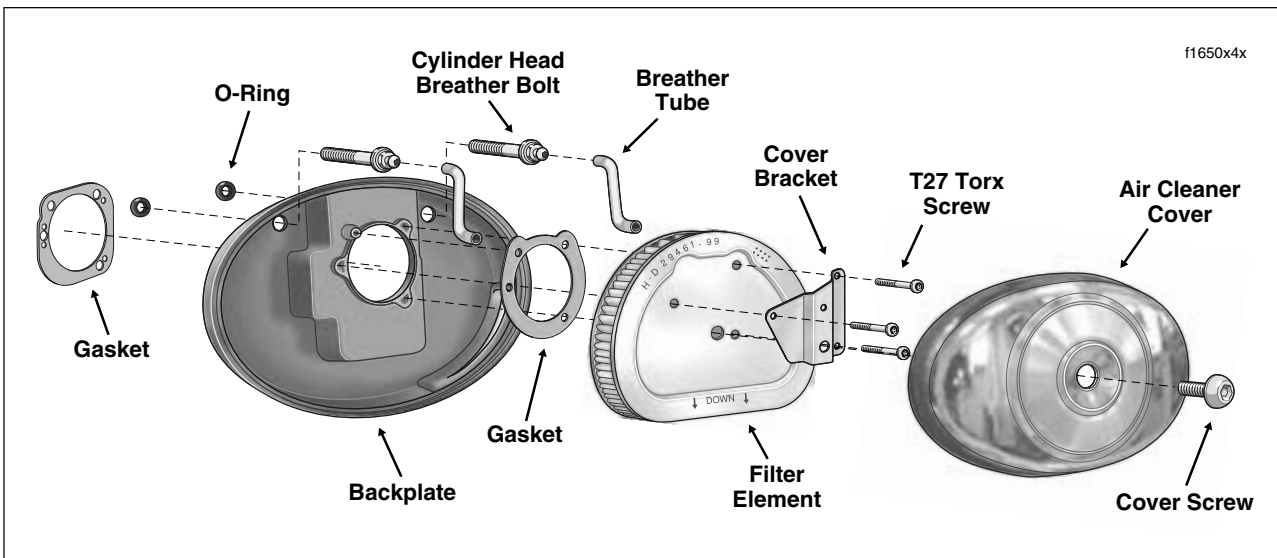

Figure 1-14. Air Cleaner Assembly
1. Remove large allen head socket screw in center of air cleaner cover. Remove air cleaner cover with rubber seal. See Figure 1-14.